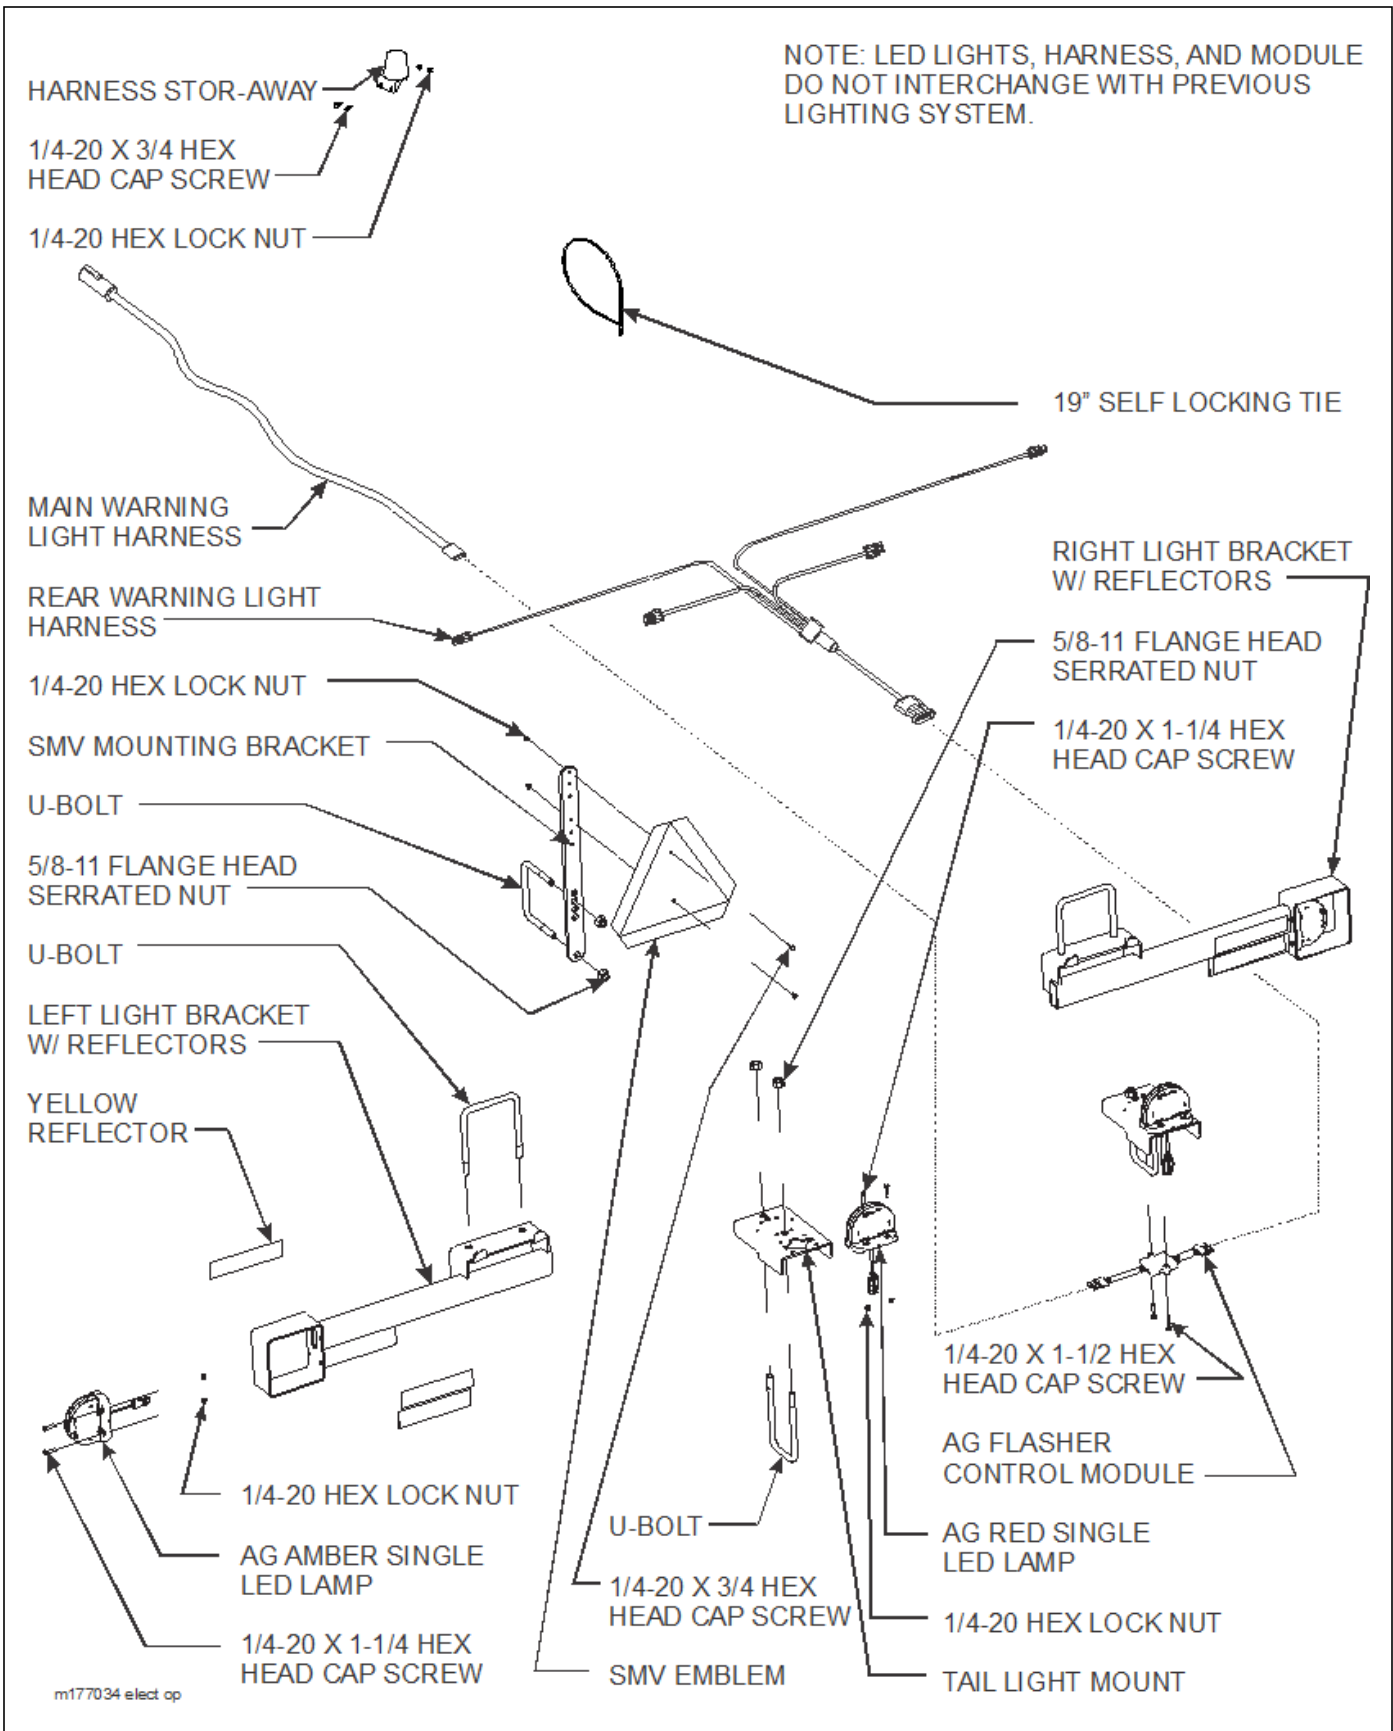

Figure 3-22: LED Light and SMV Bracket Installation (After August, 2013)
1. Attach left and right light brackets with reflectors to center frame using u-bolts and hex lock nuts (See Figure 3-22.)